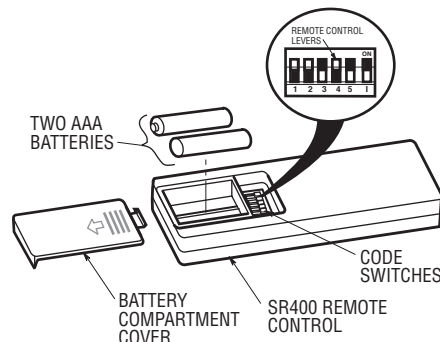

Figure 1
1. Remove the battery cover by pressing firmly below the arrow and sliding the cover off the control (Figure 1).
Setting Operating Frequency of Transmitter (Figure 1)